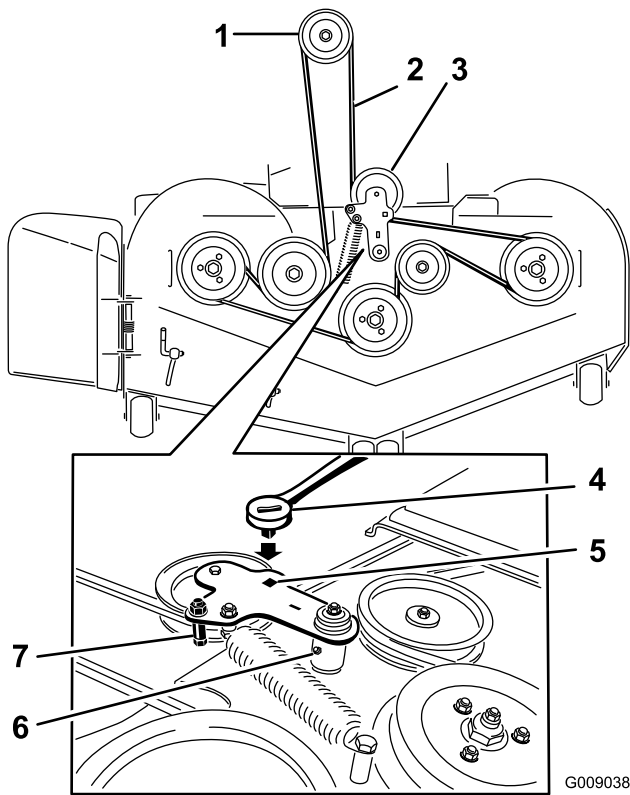

Figure 102
6. Lift up the floor pan and insert a ratchet into the square hole in the deck idler (Figure 102).
7. Rotate the deck idler clockwise and remove the mower belt (Figure 102).